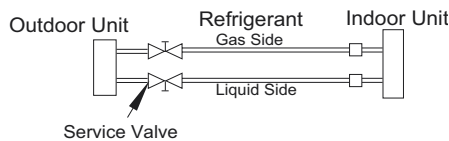

Fig. 33 — Service Valve
1. Completely tighten flare nuts A, B, C, D and connect the manifold gage charge hose to a charge port of the low side service valve (see Fig. 33).